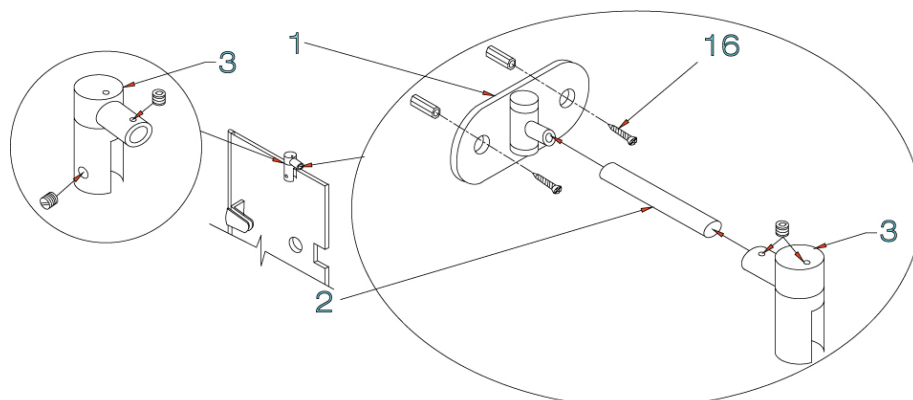

FIG.9
1. Install the support assembly (#3) approximately two-thirds from the wall. Tighten the hex screws with the hex key. [SEE FIG.9]